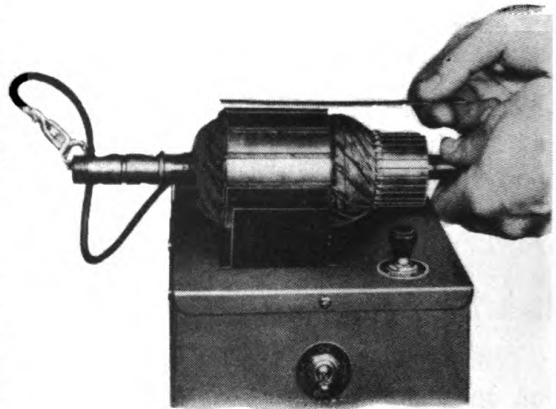

Figure 239. Testing Armature on Growler for Short.
2. Check the armature for shorts on a growler as illustrated in Figure 239. Replace the armature if it is found to be shorted. Check for opens by touching the test probes to the core of the shaft and each segment. If the lamp fails to light, the coil is open and the armature should be replaced.